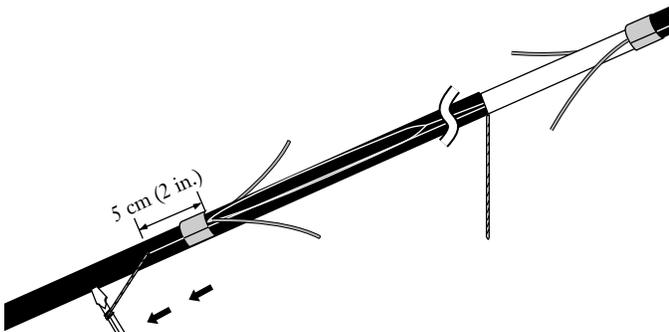

Figure 35
7.19 Using the shaft of a screwdriver as a handle, pull one rip cord at a time through the sheath and armor 5 cm (2 in.) past the opposite wrap of tape on the outer sheath (Figure 35). The extra 5 cm (2 in.) of split sheath will permit the ground clamp to fit easily under the armor in a later step).